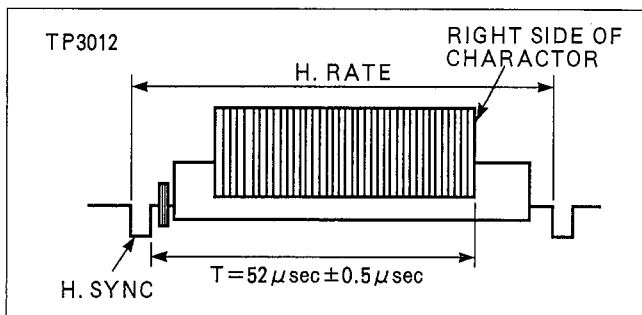

Figure E58
3. Adjust CT6601 so that the "T" becomes  $52 \mu\text{sec} \pm 0.5 \mu\text{sec}$  as shown in Figure E58.